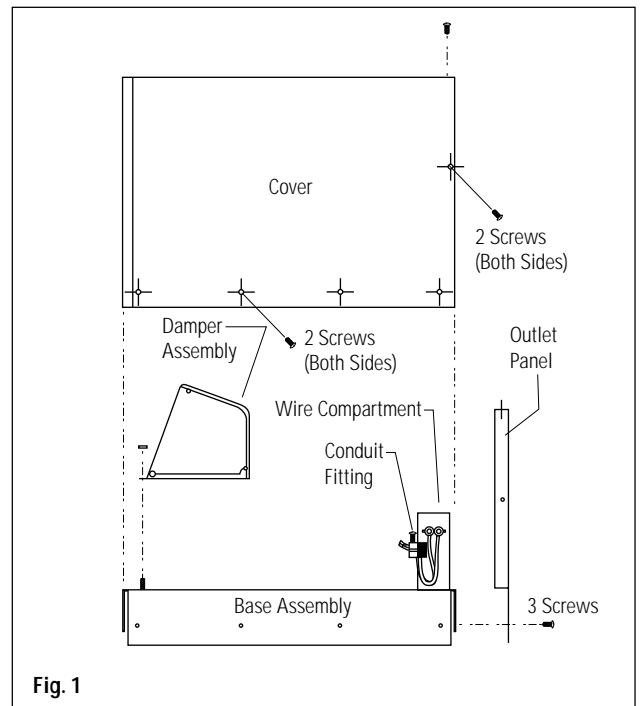

Fig. 1
- Remove the spring loaded damper assembly. Remove the 2 nuts and set aside. See Fig. 1.